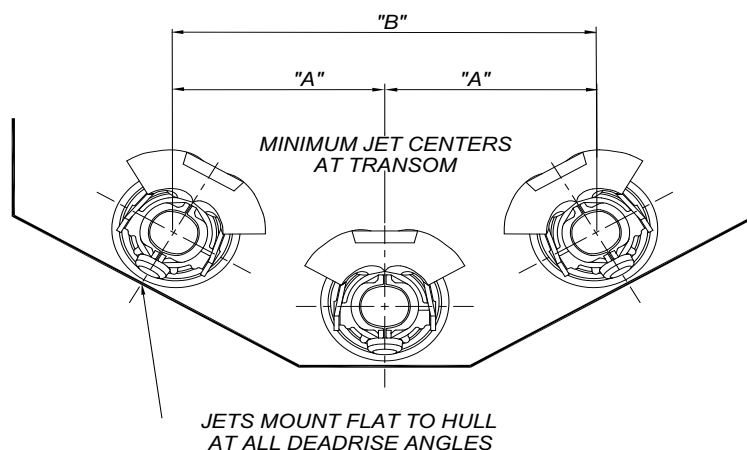

Figure 11: Installation for Multiple Jets
5. Minimum distances between jets for multiple installations. **Refer to Figure 11: Installation for Multiple Jets.**
- a) For dimensions A and B shown in Figure 11: Installation for Multiple Jets for twin and triple jet installations, refer to the installations drawings shown in **Section Section 5 Installation** of this manual.